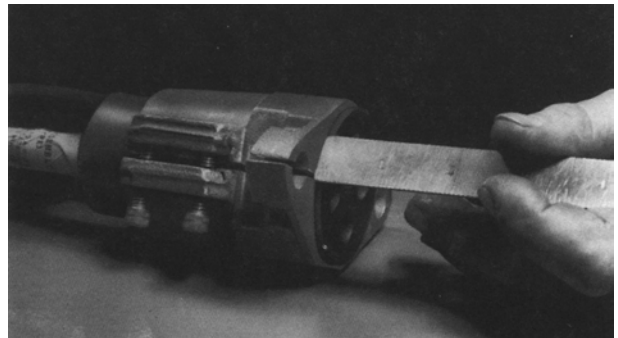

Figure 22 Checking gap, terminal box clamp to terminal box
4. Remove the shipping cap (023) from the power cable plug (182).
5. Refer to Figure 22.